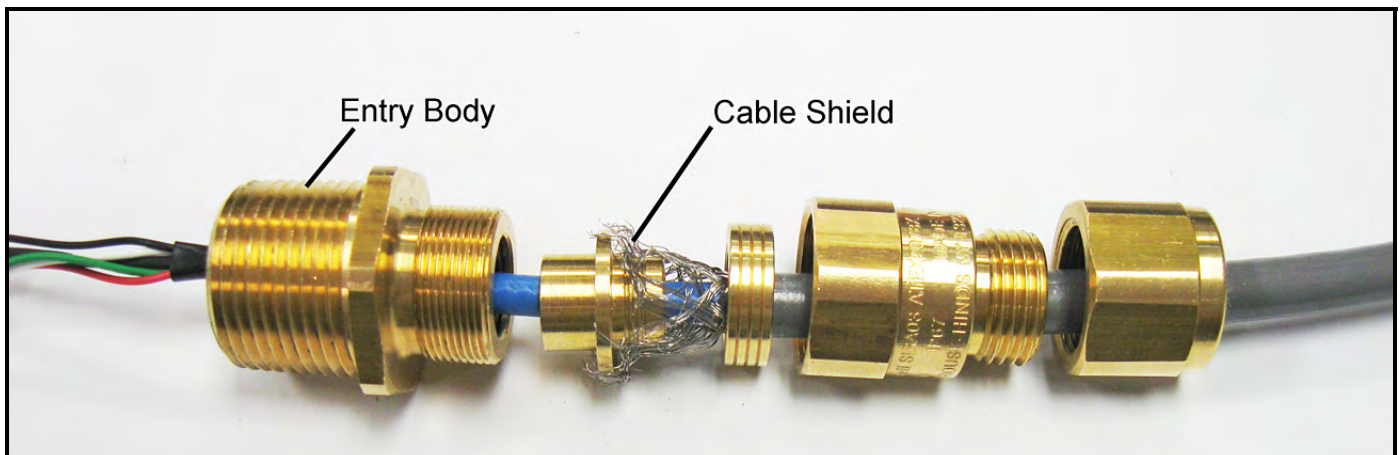

Figure 90: Proper Cable Gland Assembly (GE p/n 419-217)
- d. Fray the braided shield and spread evenly around the cone as shown in *Figure 90* below. Compress the ring to lock the shield.
IMPORTANT: *The cable shield must be terminated in the cable gland as shown in Figure 90 below.*
- d. Fray the braided shield and spread evenly around the cone as shown in Figure 90 on page 101. Compress the ring to lock the shield.
IMPORTANT: *The cable shield must be terminated in the cable gland as shown in Figure 90 on page 101.*